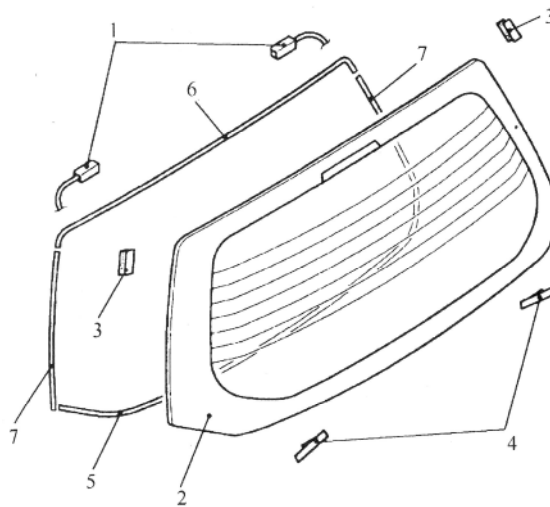

Fig.18-48
(1) The disassembly procedure. See figure18-48.